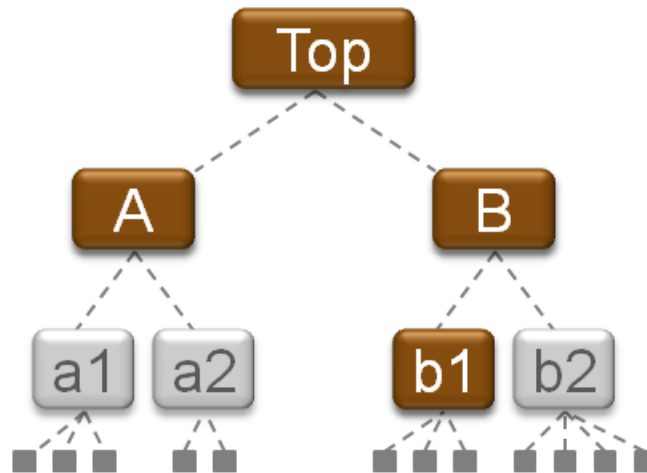

Figure 2: Searching the Design Hierarchy
As an example, Figure 2 shows a hierarchical design where the modules A and B are instantiated at the top-level. Module A includes the a1 and a2 hierarchical instances, and module B includes the b1 and b2 hierarchical instances. Each of a1, a2, b1, and b2 has leaf cells (unisim instances) inside, as indicated in the figure.
The following example is based on Figure 2, page 38 which shows a purely hierarchical netlist.
The `-hierarchical` search is equivalent to manually performing a search at each level of the hierarchy, using the `current_instance` command to set the search scope to a particular hierarchical instance, and return all the objects that match the specified name pattern at that level. The following Tcl code, based on Figure 2, page 38, illustrates this manual process:
**IMPORTANT:** When `-hierarchical` is used with `-regex`, the specified search string is matched against the full hierarchical name, and `B/.*` will return all cell names that match this pattern. For example, based on Figure 2, `get_cells -hierarchical -regex B/.*` returns all the cells below the block B. See the *Vivado Design Suite Tcl Command Reference Guide (UG835)* [\[Ref 1\]](#) for more information on `-regex`.